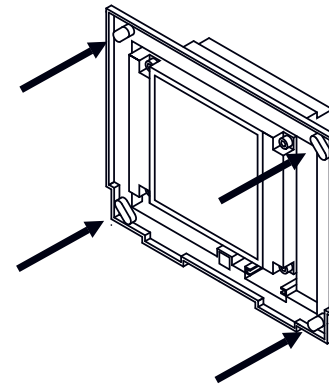

Fig. 65
3. Insert unit into flush-mounting box and tighten screws (Fig. 65).